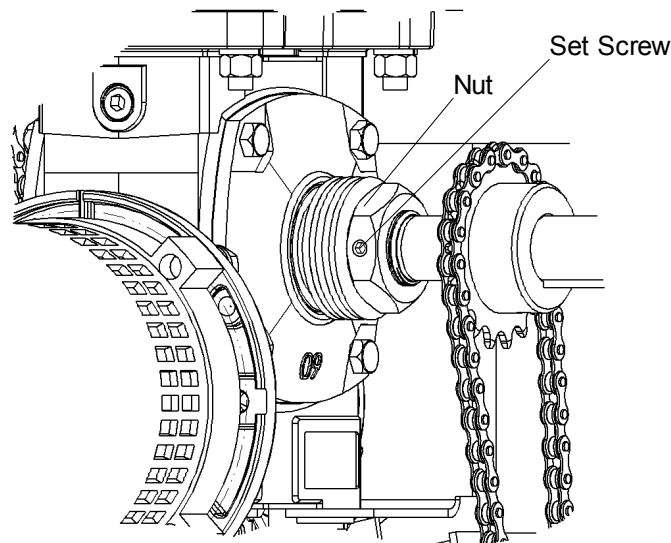

Figure 29 - Clutch Adjustment
1. Loosen clutch set screw, refer to Figure 29.